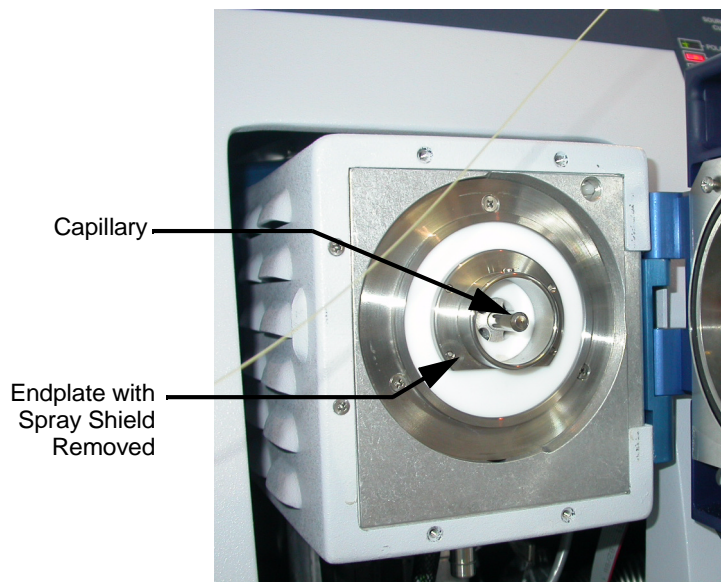

Figure 6-13 ESI Source with Spray Shield Removed
1. Open the spray chamber door, remove the spray shield from the endplate so that the Capillary is visible, and close the spray chamber door (Figure 6-13).